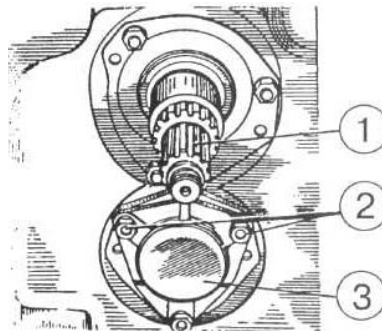

Figure 4.25
- a) extract shaft 1 (Figure 4.25);